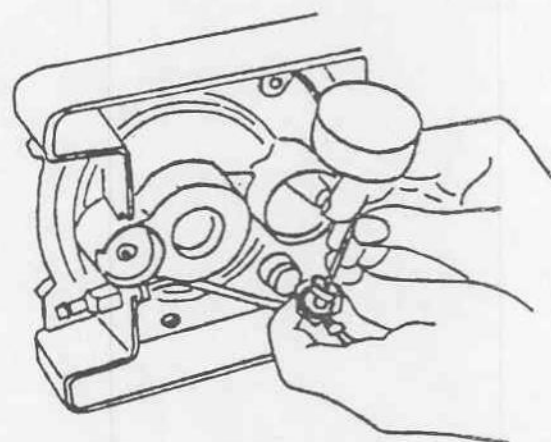

Fig. 10
5. Remove the upper disc no. 150075 in the valve housing carefully by placing a pointed wooden stick or metal rod in the center hole (avoid damage of the sealing surface) (Fig. 10).